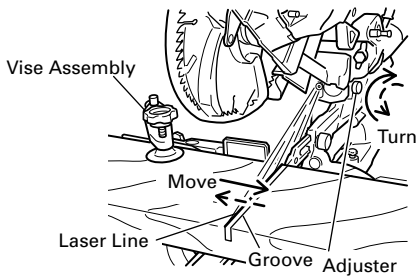
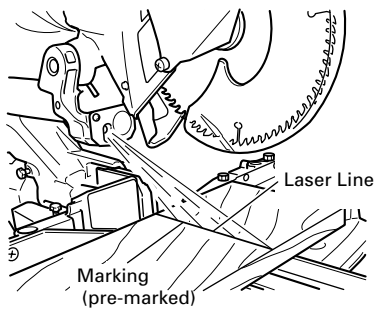

Fig. 20
Fig. 21
(1) Light up the laser marker and make a groove of about  $\frac{3}{16}$ " (5mm) deep on the workpiece that is about  $\frac{25}{32}$ " (20mm) in height and  $5\text{-}\frac{29}{32}$ " (150mm) in width. Hold the grooved workpiece by vise as it is and do not move it. For grooving work, refer to "11. Groove cutting procedures" on page 24.
(2) Then, turn the adjuster and shift the laser line. (If you turn the adjuster clockwise, the laser line will shift to the right and if you turn it counterclockwise, the laser line will shift to the left.) When you work with the ink line aligned with the left side of the saw blade, align the laser line with the left end of the groove. (Fig. 20) When you align it with the right side of the saw blade, align the laser line with the right side of the groove.
(3) After adjusting the position of the laser line, draw a right-angle ink line on the workpiece and align the ink line with the laser line. When aligning the ink line, slide the workpiece little by little and secure it by vise at a position where the laser line overlaps with the ink line. Work on the grooving again and check the position of the laser line. If you wish to change the laser line's position, make adjustments again following the steps from (1) to (3).
**NOTE:** Check and make sure on a periodic basis if the position of the laser line is in order. As regards the checking method, draw a right-angle ink line on the workpiece with the height of about  $\frac{25}{32}$ " (20mm) and the width of  $5\text{-}\frac{29}{32}$ " (150mm), and check that the laser line is in line with the ink line [The deviation between the ink line and the laser line should be less than the ink line width (0.5mm)]. (Fig. 21)